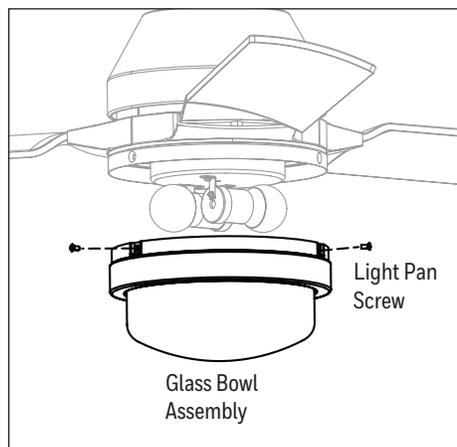

Figure 5.8
8. Remove the three light pan screws from the edge of the glass bowl assembly. Attach the glass bowl assembly to the light pan with the light pan screws (Figure 5.8).